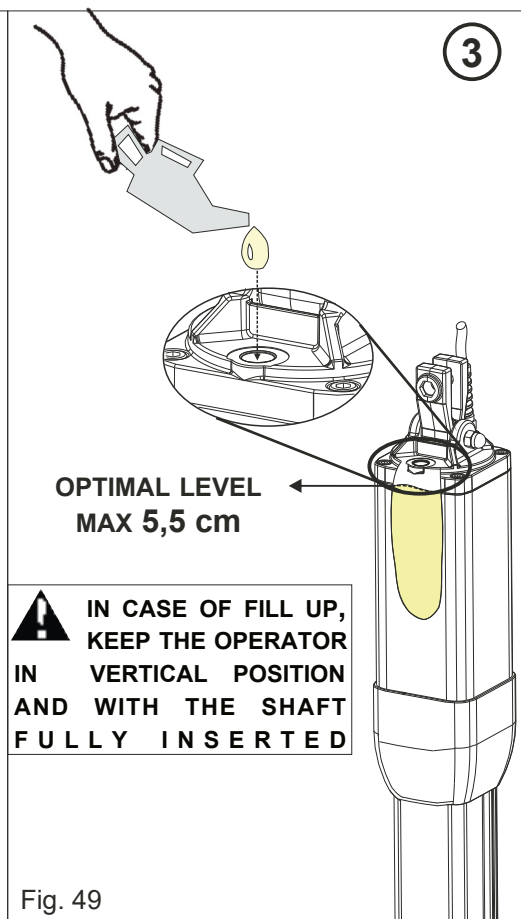

Fig. 49
- 1) Unlock the operator (see the unlocking procedure in Fig. 49 and Fig. 50)
- 1) Unlock the operator (see unlocking procedure in Fig. 49 and Fig. 50)